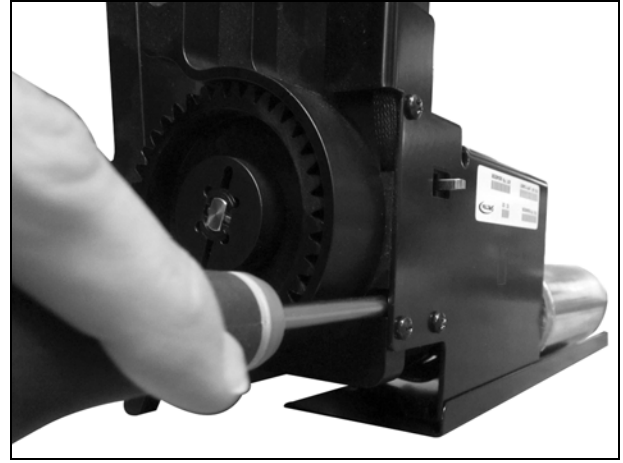

Figure 29 Access the upper screw through the cutout in the motor assembly.
11. Using a #2 Phillips screwdriver, tighten the three screws that secure the HAX motor to the motor assembly housing. Use the cutout in the plastic to reach the upper screw (see Figure 29 on page 23).